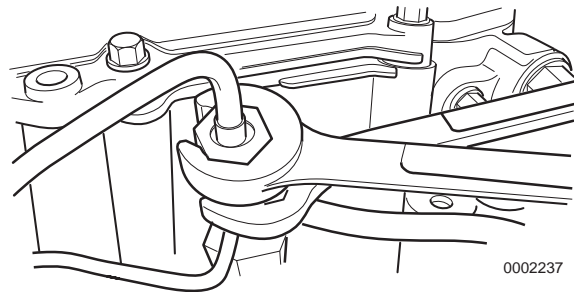

Figure 7-4
5. Next, loosen the fuel line nuts at the fuel injectors. Use one wrench to hold the fuel return line nut and fuel return line from rotating. Use a second wrench to loosen the fuel line nut (**Figure 7-4**). Repeat with the remaining fuel injectors.
3. When tightening the fuel line nuts on the fuel injectors, use one wrench to hold the fuel return line nut and fuel return line from rotating. Use a second wrench to tighten the fuel line nuts (**Figure 7-4**). See *Special Torque Chart* on page 7-6.